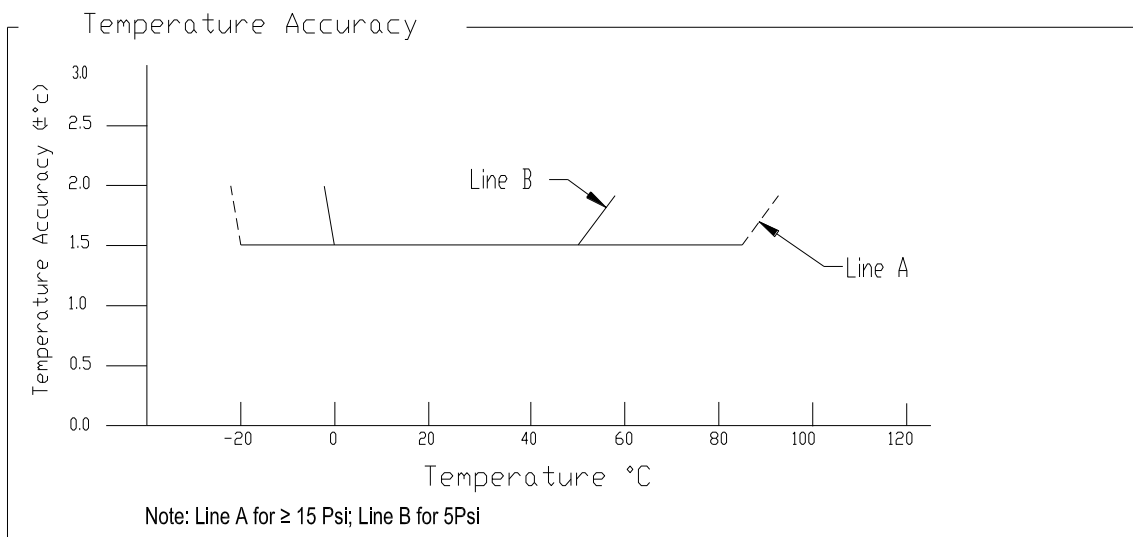

Fig 2
4. The deviation from a best fit straight line (BFSL) fitted to the output measured over the compensated temperature range. For errors beyond the compensated temperature range, See Figure 2.